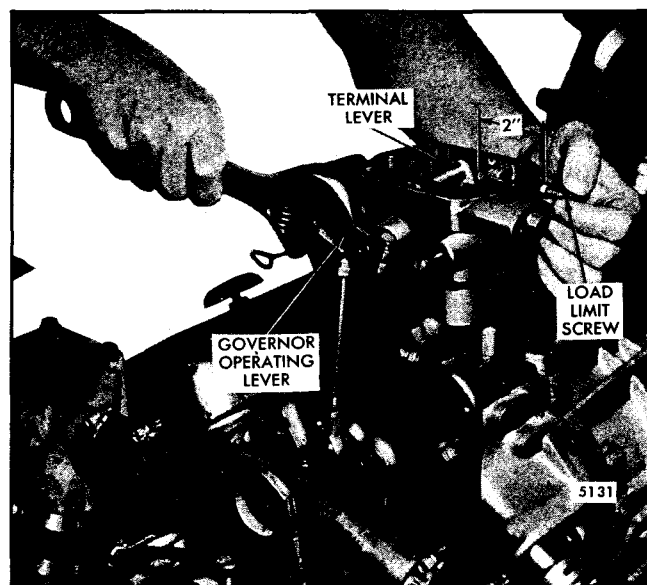

Fig. 7 - Adjusting Load Limit Screw
20. With the load limit screw backed all the way out, retain the governor operating lever in the full-fuel position. The governor terminal lever should touch the boss in the governor housing (Fig. 7). Adjust the vertical link so that all of the injector racks are in the full-fuel position, then tighten the rod end lock nuts securely.
1. With the governor cover off and the load limit screw lock nut loosened, adjust the screw to obtain a distance of approximately 2" from the outside face of the boss on the governor sub-cap to the end of the screw. Then place and retain the governor operating lever in the full-fuel position as shown in Fig. 7.